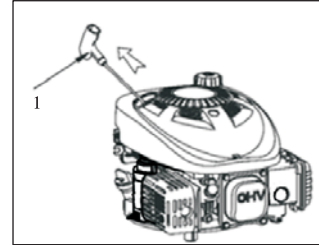

Fig.3
Do not allow the starter grip (1) to snap back against the engine. Return it gently to prevent damage to the starter. (Fig.3)